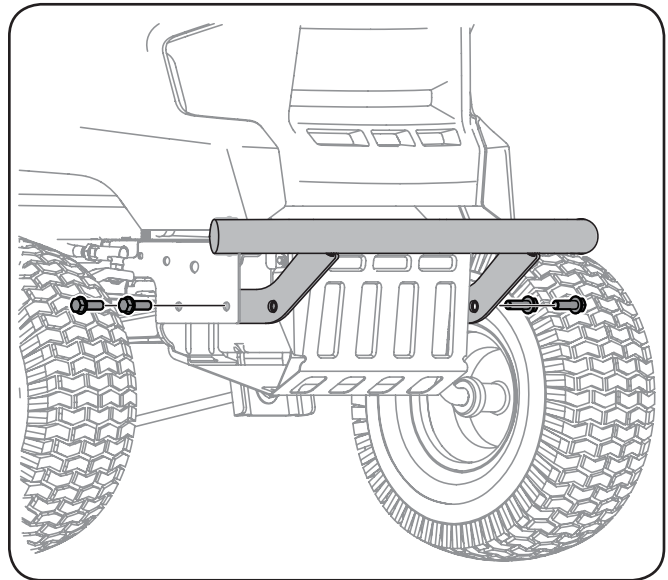

Figure 3-7
2. Position the bumper brackets to the *inside* of the tractor's frame and secure it in place with the four hex flange screws. See Figure 3-7.